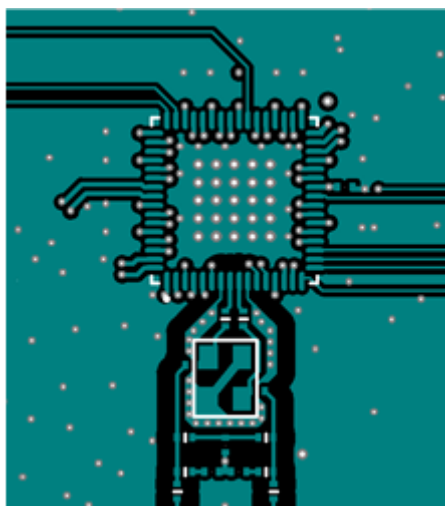
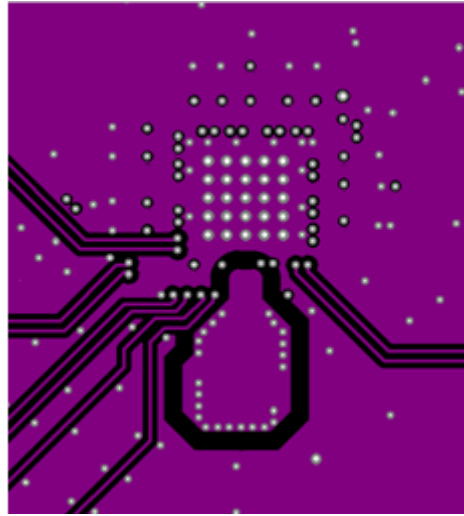

Figure 9.1. Si5380 Device and Crystal Layout Recommendations, Top Layer (Layer 1)
Figure 9.2. Input Clocks and Crystal Shield Layer, Below the Top Layer (Layer 2)
3. Connect the crystal's "GND" pins to the devices X1 and X2 pins via a local crystal shield placed around and under the crystal. See the bottom right diagram of Figure 9.1 Si5380 Device and Crystal Layout Recommendations, Top Layer \(Layer 1\) on page 64 for an illustration of how to connect the crystal shield by placing vias connecting the top layer traces to the shield layer underneath. The second layer of the ground shield is shown in Figure 9.2 Input Clocks and Crystal Shield Layer, Below the Top Layer \(Layer 2\) on page 65.